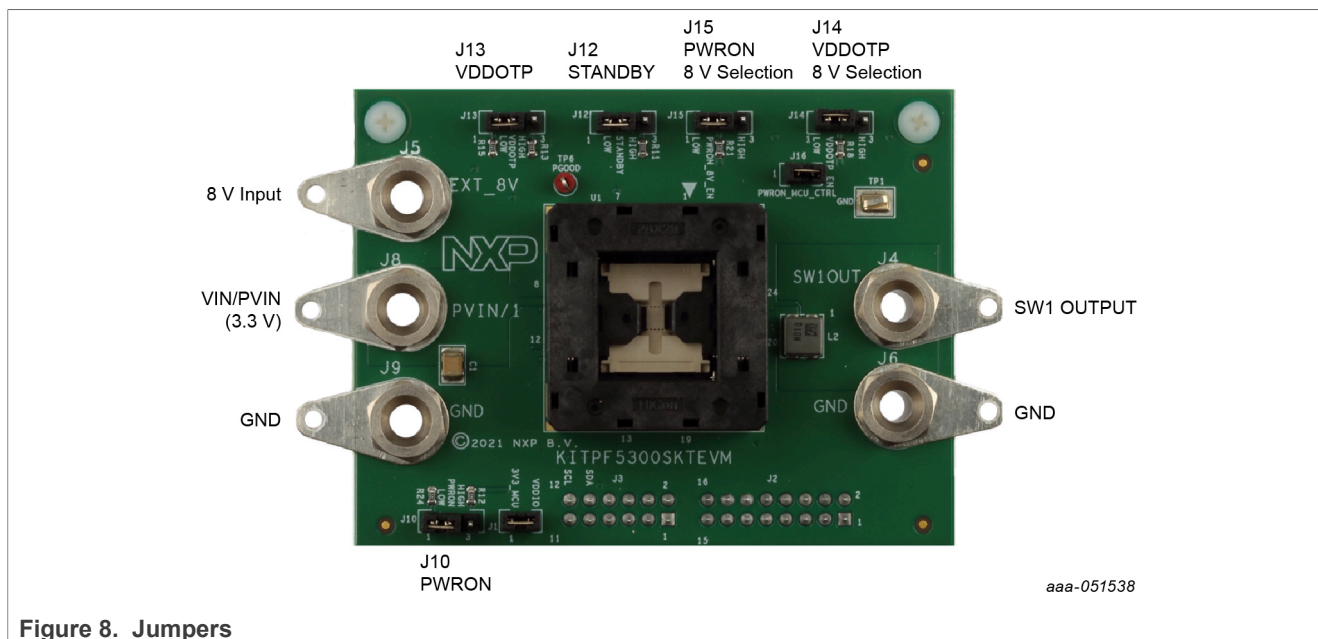

Figure 8. Jumpers
1. Make sure that the board has the right jumper configuration per Table 1 and Figure 8.